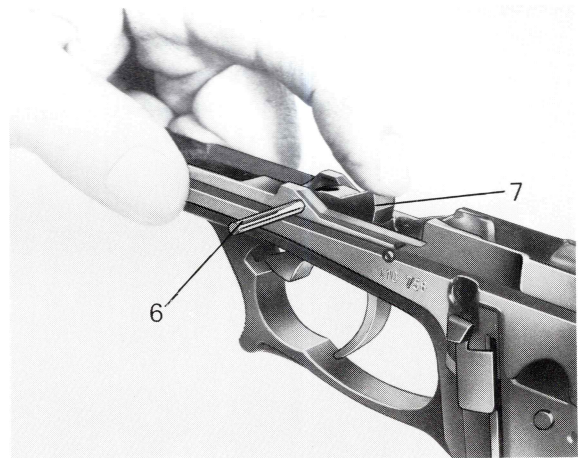

Fig. 35
- Insert compression spring (8) into the barrel clamp (7).
- Introduce both components into the receiver, retaining them in position with assembly pin dia 2.85 x 30 (Fig. 35), follow up with cylindrical pin (6) until it fits flush with both sides of the receiver.